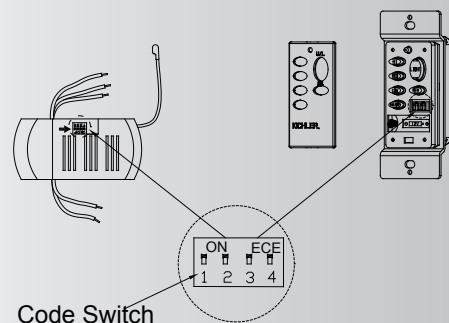

Fig. 12
**NOTE:** The wall mount control system is equipped with 16 code combinations to prevent possible interference from or to other remote units. The frequency switches on your receiver and transmitter have been preset at the factory. Please recheck to make sure the switches on the transmitter and receiver are set to the same position, any combination of settings will operate the fan as long as the transmitter and receiver are set to the same opposition. ( Fig. 12) Changing the order of switches on each switch block, changes the operational frequency.